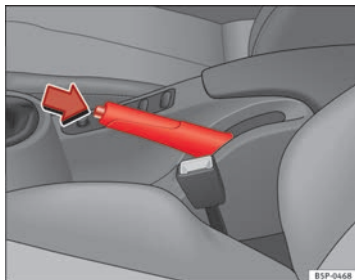

Fig. 147 Handbrake between the front seats
- Pull the handbrake lever up firmly ⇒ Fig. 147.
- Pull the lever up slightly and press the release knob in the direction of the arrow ⇒ Fig. 147 and guide the handbrake lever down fully ⇒ ⚠.